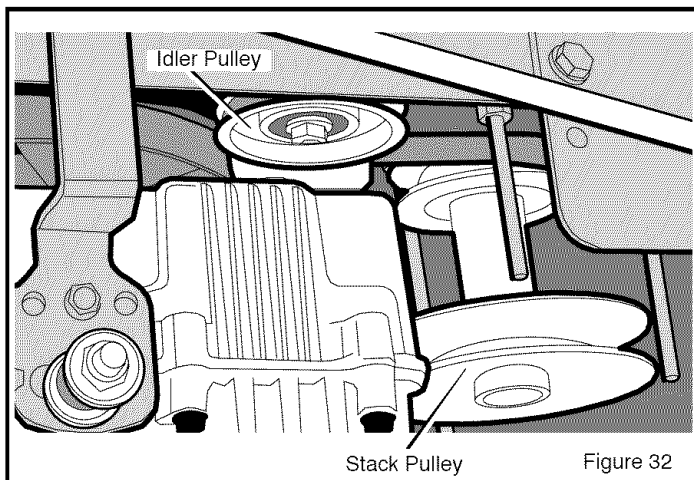

Figure 32
4. Remove the **idler pulley** (see Figure 32).